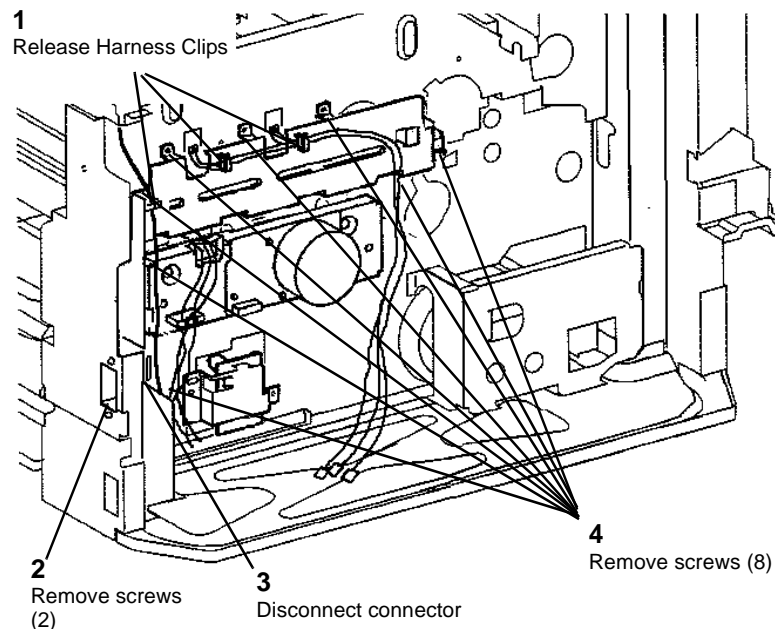

Figure 2 Removing Drum Motor Assembly
9. Loosen the I/F PWB chassis mounting screws (2) and move chassis up (REP 1.8).
13. Remove the Drum Motor Assembly (Figure 2).